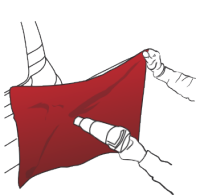
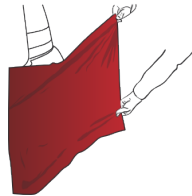
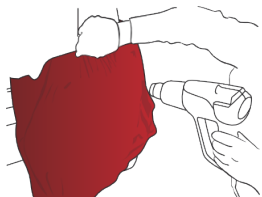

Figure 16
Figure 17
Figure 20
- › Heat the vinyl (FIG. 16) to a temperature ranging from 30 °C to 40 °C (from 86 °F to 104 °F), then stretch the film so as to completely wrap the convex surface. (FIG. 17)
- › After this operation, heat to a temperature ranging from 30 °C to 40 °C (from 86 °F to 104 °F) (FIG. 20) and stretch to eliminate all folds using the squeegee.
⚠ *Take particular care when heating the stretched film (FIG. 16) (FIG. 20). The hot air gun or the gas torch must never be held at a right angle to the surface of the film. It should be inclined so as to heat a larger surface area. Keep the hot air gun moving all the time. Heating the film from a reduced distance and over a prolonged time may irreversibly damage the film.*